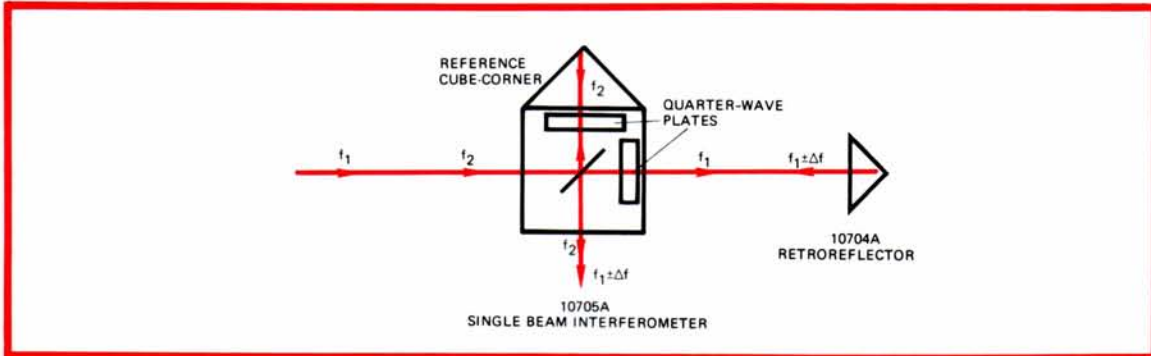

Figure 2-14. Single Beam Interferometer Laser Beam Path
2.13 10705A SINGLE BEAM INTERFEROMETER AND 10704A RETROREFLECTOR (Figure 2-13). A single beam interferometer is so called because the outgoing and returning beam are superimposed on each other giving the appearance of only one beam traveling between the interferometer and the retroreflector. This interferometer operates the same as the standard interferometer functionally but it is advantageous when space for optics and beam paths is at a premium. The retroreflector is again a cube corner but it is considerably smaller than the standard cube corner and the interferometer is smaller than the standard interferometer. One significant difference is that the receiver in this case is mounted at right angles to the measurement beam and the **interferometer cannot be moved**. A diagram of this type of interferometer is shown in Figure 2-14.
2.14 SINGLE BEAM INTERFEROMETER LASER BEAM PATH. A polarizing beam-splitter reflects f_2 to the reference cube corner and transmits f_1 to the 10704A Retroreflector or other surface whose displacement is being measured (Figure 2-14). The return path is superimposed on the outgoing path. Since both beams leaving the beam-splitter pass through a quarter-wave plate the returning polarizations are rotated through 90 degrees. This causes f_2 to be transmitted and $f_1 \pm \Delta f$ to be reflected so that they are directed coaxially to the receiver along a path perpendicular to the measurement path.